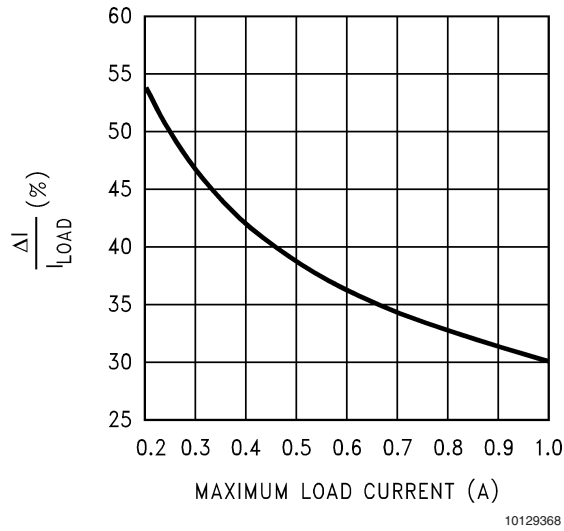

FIGURE 5. Current Ripple Ratio
4. The nomographs were generated by allowing a greater amount of percentage current ripple in the Inductor as the maximum rated load decreases (see *Figure 5*). This was done to permit the use of smaller inductors at light loads. *Figure 5* however shows only the 'median' value of the current ripple. In reality there may be a great spread around this because the nomographs approximate the exact calculated inductance to standard available values. It is a good idea to refer to AN-1197 for detailed calculations if a certain maximum inductor current ripple is required for various possible reasons. Also